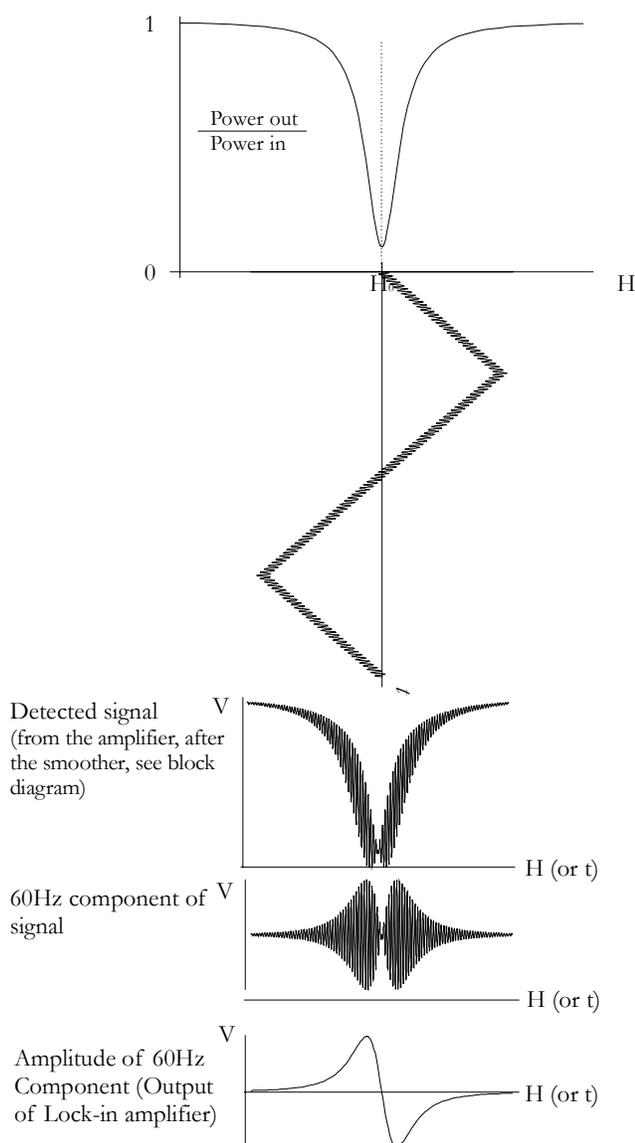

Figure 11: Lock-in amplifier signals
E. Lock-in Amplifier Operation: For fine tuning of the NMR resonance, we can leave the frequency f and all other parameters fixed and optimized, and vary the "total-DC" magnetic field by adding a small field H_2 by Wavetek 142 generator drive of the magnet coils. The following diagrams show what this change does to the signal. See Figure 11.
You want to sweep the field as shown in Figure 11. Unfortunately, the magnet power supply cannot supply a negative current, so the sweep starts at the resonance field H_0 . Consequently, the sweep is not symmetrical, and half the resonance curve is lost. Therefore you must change the RF to a higher value to put the resonance at the center of the triangular sweep. This means you must put